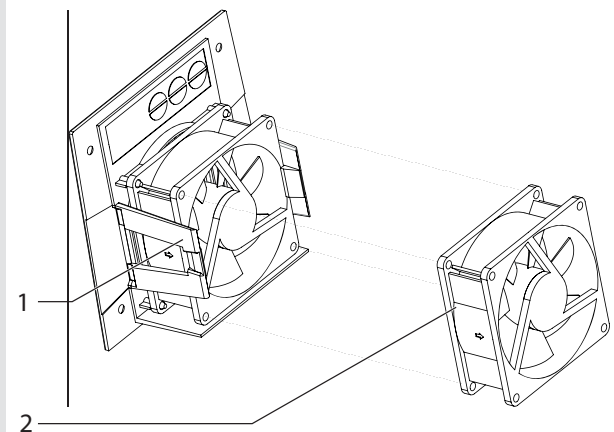

Figure 38: Remove inverter from the cover.
- 7. Remove fan from the fan cover by lightly opening the latch bracket. (Figure 38).